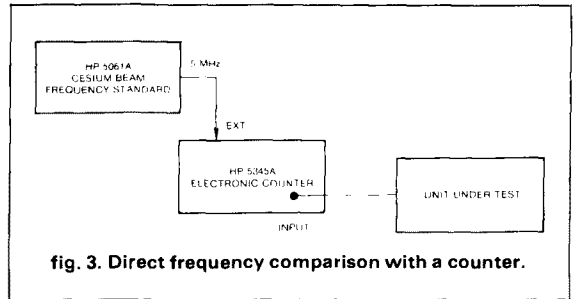

fig. 3. Direct frequency comparison with a counter.
Trigger error for this specific counter is less than 0.3% divided by the number of periods averaged for a 10 mV input sine wave, with noise specified at 40 dB below the signal level. The setup is shown in fig. 3. Let's go through a typical measurement and see how the calculations are done. Returning to our basic equation for error sources:
* See fig. 3